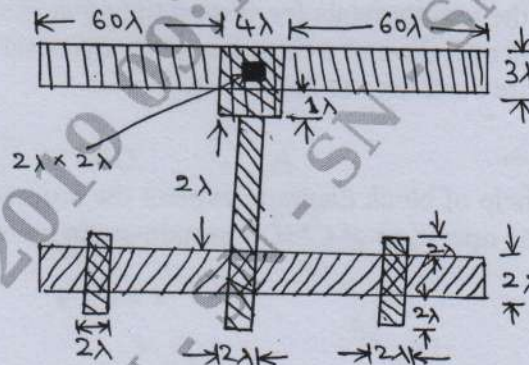

Fig.Q4(b)
- b. Find the C_{in} for the layout shown in Fig.Q4(b).